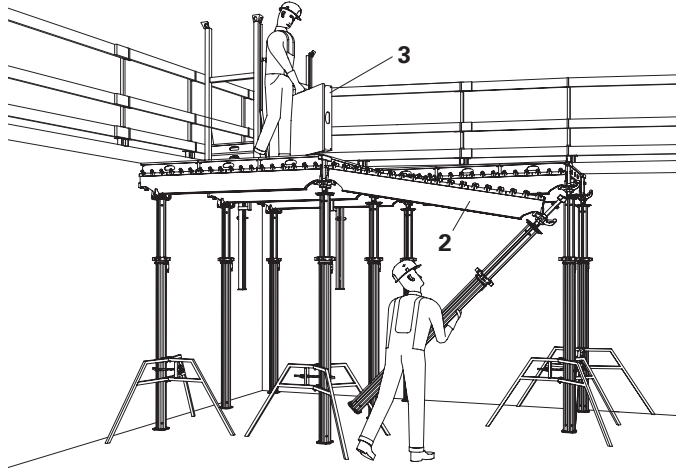
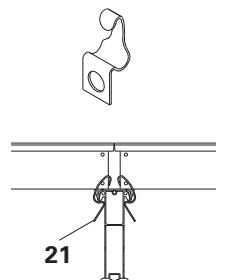

Fig. 21
Fig. 22a
With wind speeds of 64 km/h upwards, reinforcement is to be carried out immediately or the panels are to be fixed to the main beams by means of 2 Panel Clips SPK (21) respectively. (Fig. 22a)
1. Attach Main Beam SLT 225 (2) to the drophead.
2. Connect prop with drophead in the raised main beam. (Fig. 21)
4. Install panel (3).